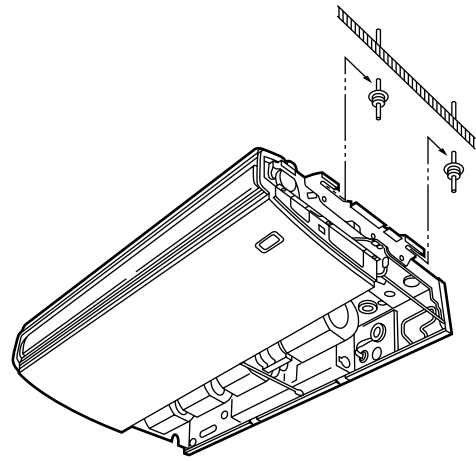

Fig. 3-64
- (b) Lift the indoor unit, and place it on the washers through the notches, so as to fix it in place. (Fig. 3-64)